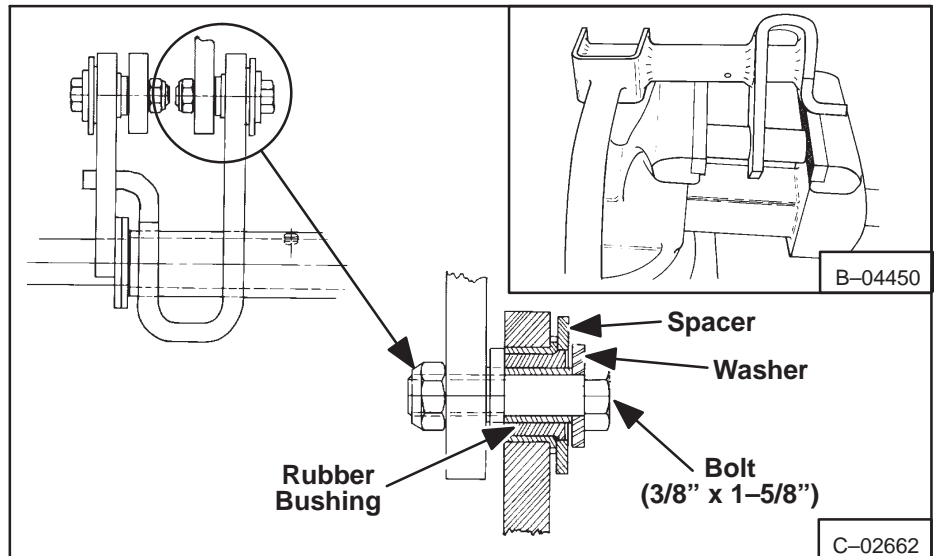

Fig. 3-10 Installing Bushings
2. Install new rubber bushings into the steering levers, using two sockets and a vise (Fig. 3-10).